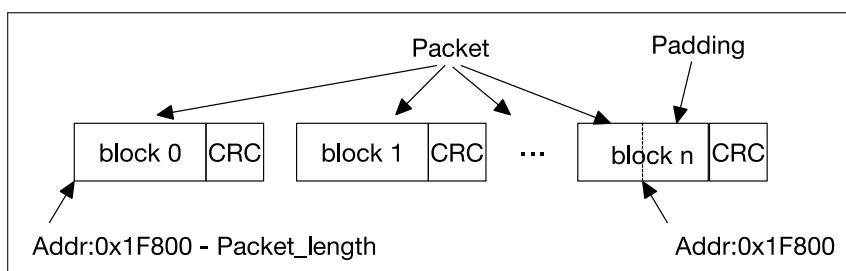

Figure 32-8. Data Flow of Sending Incremental-address Packets From Host to Slave
- For incremental-address packets, the slave determines valid data based on the address. The data with the address greater than or equal to 0x1F800 is considered as invalid data and will be discarded. Therefore, the host should set the CMD53 start address field to 0x1F800 – Packet\_length (unit: byte). The data flow of incremental-address packets on SDIO bus is shown in Figure 32-8.